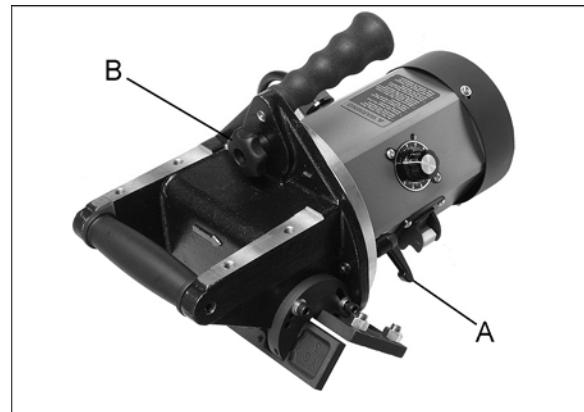

Figure 7-1: adjustments
1. Loosen locking handle (A, Figure 7-1) on each side of machine.